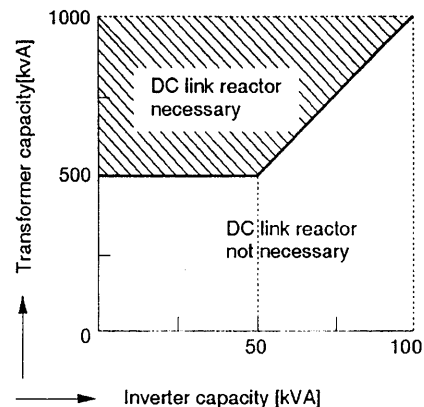

Fig.6-2-7 Application DC link reactor(1)
- Capacity ratio of the power supply transformer to the inverter is as shown is Fig. 6-2-7 .